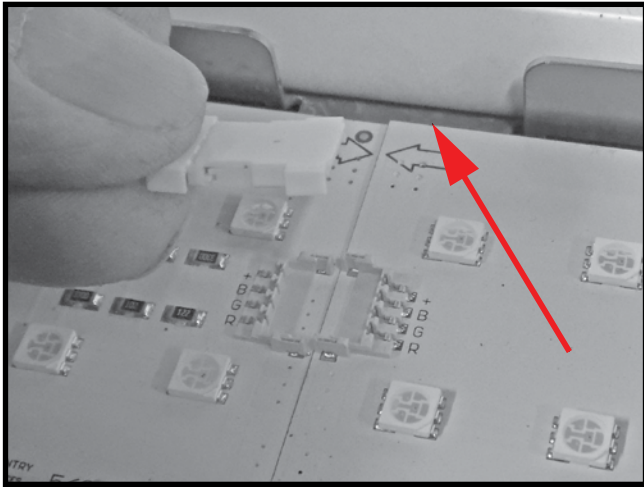

Figure 54: LED strip bridge connector.
4. Disconnect the main electrical connection located on the left hand side of the fire feature by lifting the connector up as shown in Figure 54.
5. Remove the bridge connector of the LED section(s) to be replaced (Figure 54). These connector tabs lift up much like the main electrical connector. In this way, individual LED sections can be replaced without removing the entire row of LED sections from the fire feature.
8. Reconnect the individual LED sections using a bridge connector as shown in Figure 54.